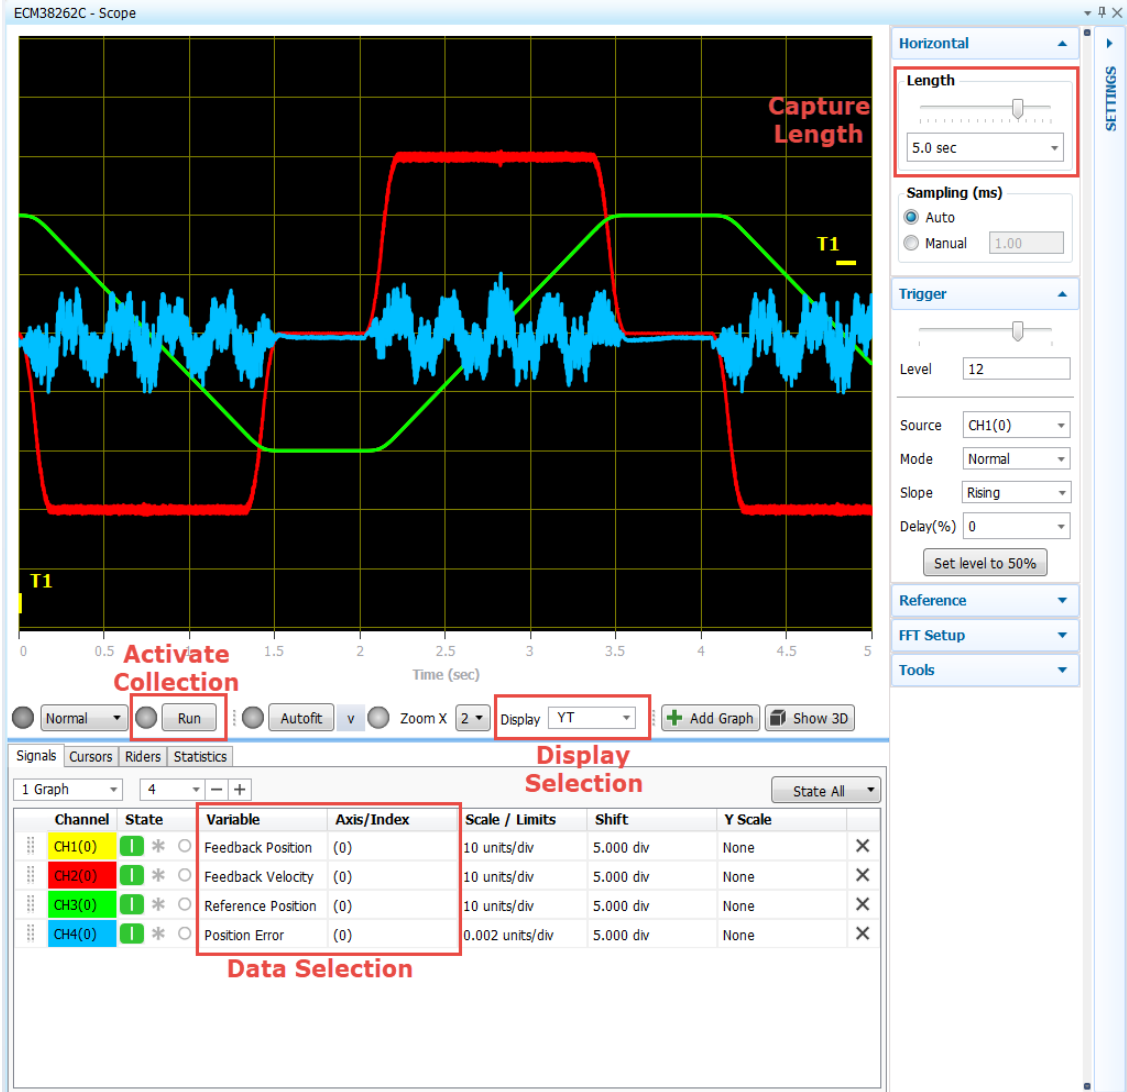

Figure 8-2. Example Display of the Scope
3. Figure 8-2 shows an example of some of the measurements that can be taken using the **Scope**. Note the following about Figure 8-2: